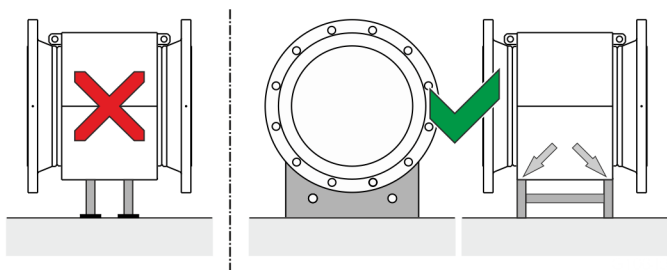

Figure 9: Support for nominal diameters greater than DN 400
- Place the supports at the edge of the sensor housing (see arrows in **Figure 9**).